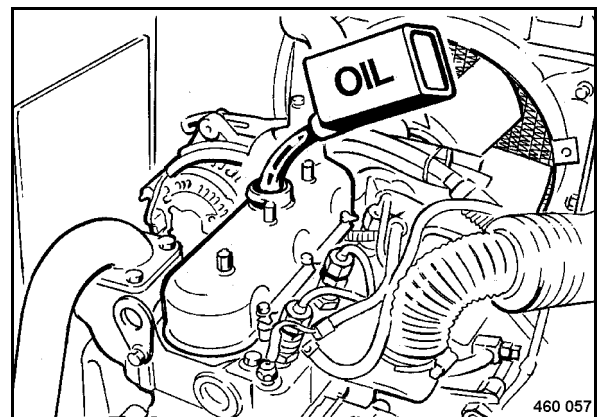

Fig. 95
- Fill in new engine oil (Fig. 95).